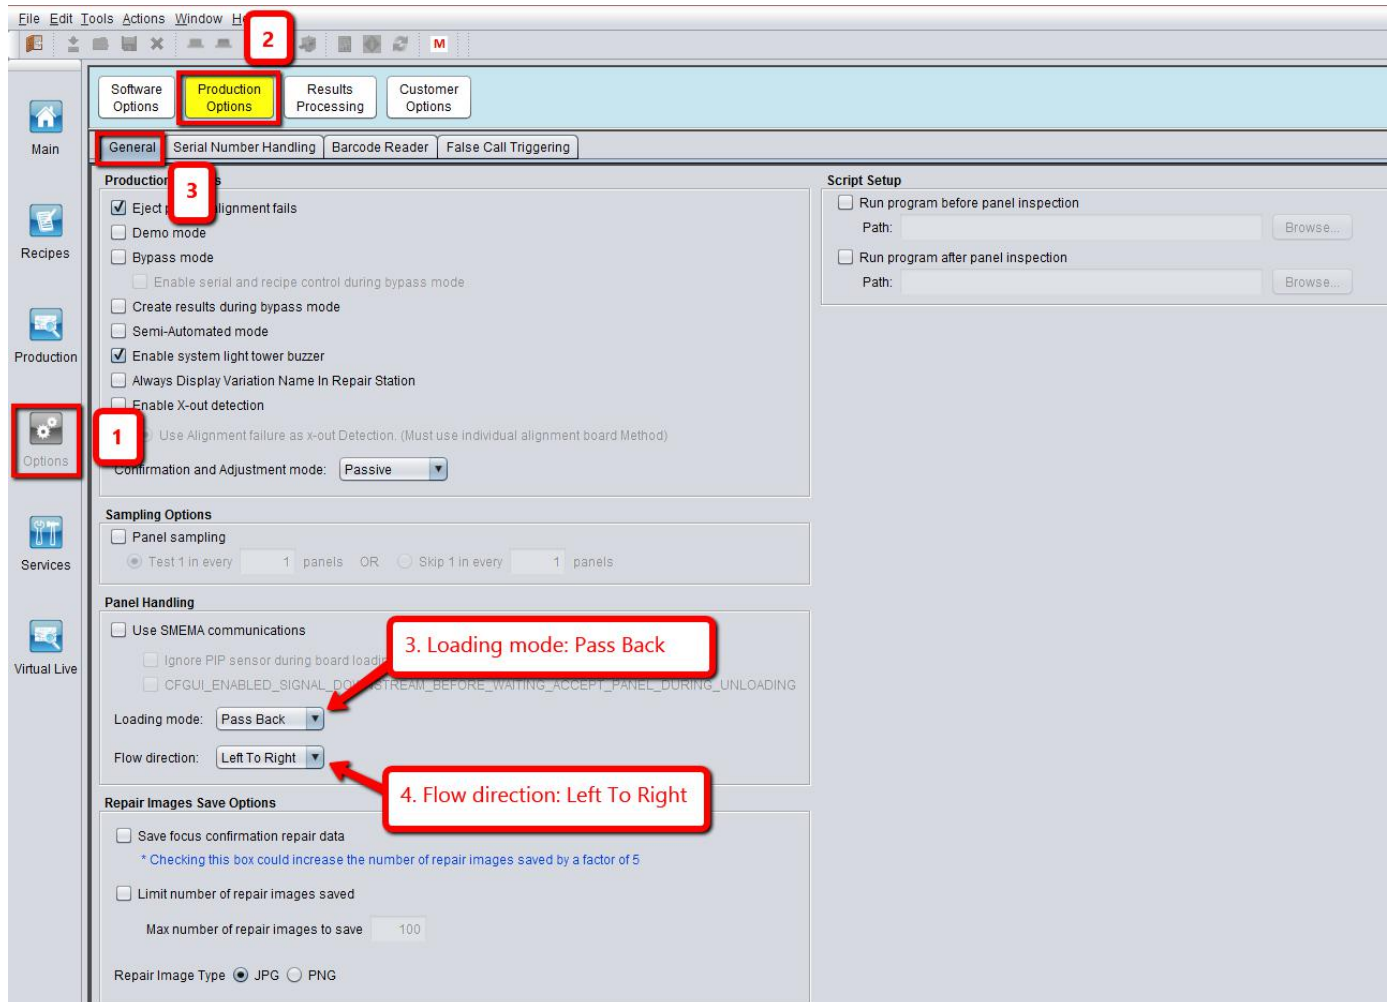

Figure 5 Loading Mode
7. Go to the Options -> Production Options -> General and change the following items as shown in the Figure 5.